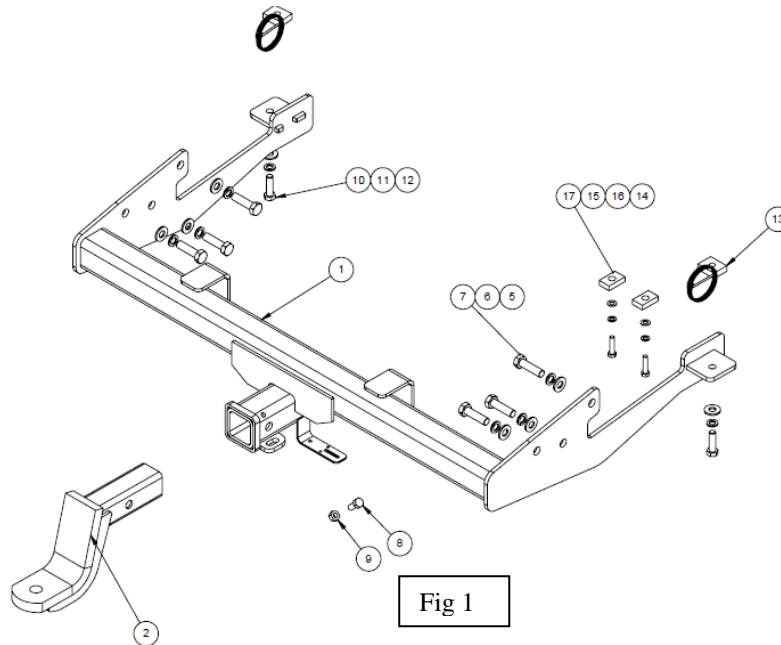

Fig 1
9. Locate the towbar on the vehicle, and line up the towbar holes, with the holes in the chassis rails and fit with the relevant fasteners, as shown in Figure 1
10. If required fit spacer plates (Item 17) between chassis and exhaust bracket to provide additional clearance from exhaust. (as shown in FIG: 1)
16. Use the Pull pin & R Clip, shown in Figure 1, as per the directions mentioned on page 1.